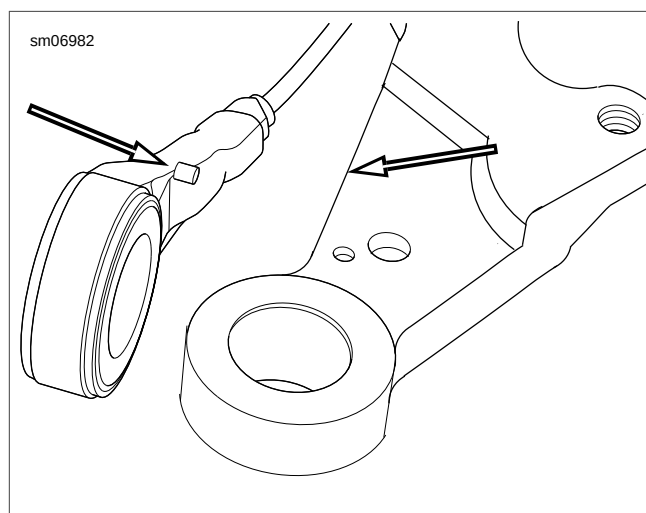

Figure 2-11. Rear Wheel Speed Sensor Index Pin (ABS Equipped)
5. Install washer (15) and axle nut (16). Do not tighten axle nut at this time.
6. See Figure 2-11. If ABS equipped, rotate rear wheel speed sensor counterclockwise until index pin makes contact with caliper bracket at point shown.